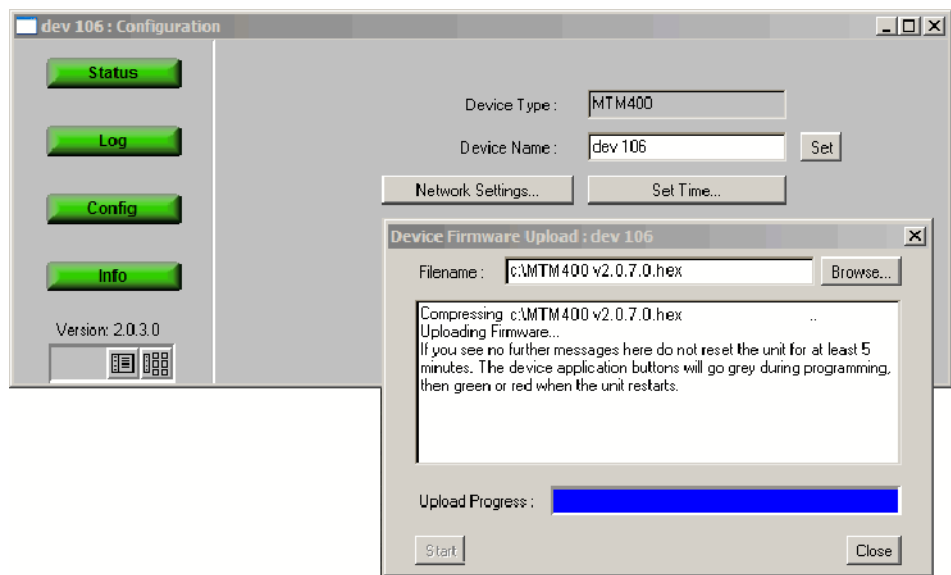

Figure 13: Completing the MTM400 firmware upload
7. When all four buttons in the Device view have been active for more than 20 seconds (colored red, green, or yellow), and the progress bar in the Device Firmware Upload dialog is full as shown in Figure 13, the firmware is successfully loaded.